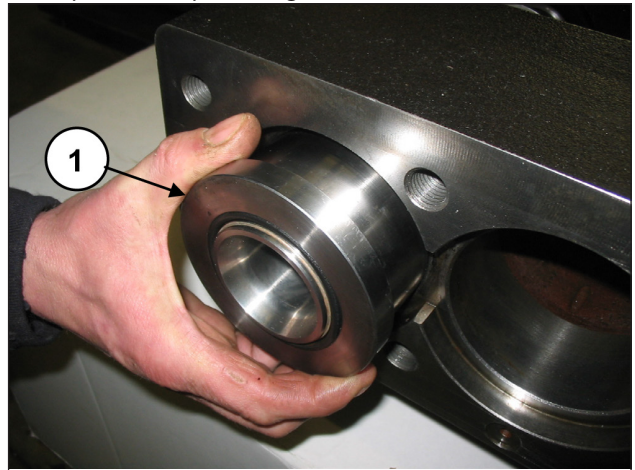

Fig. 142
Turning the shaft, have the piston guide move forward so that the buffer, moving ahead, can expel the seal support and the entire piston unit (pos. ①, Fig. 142).